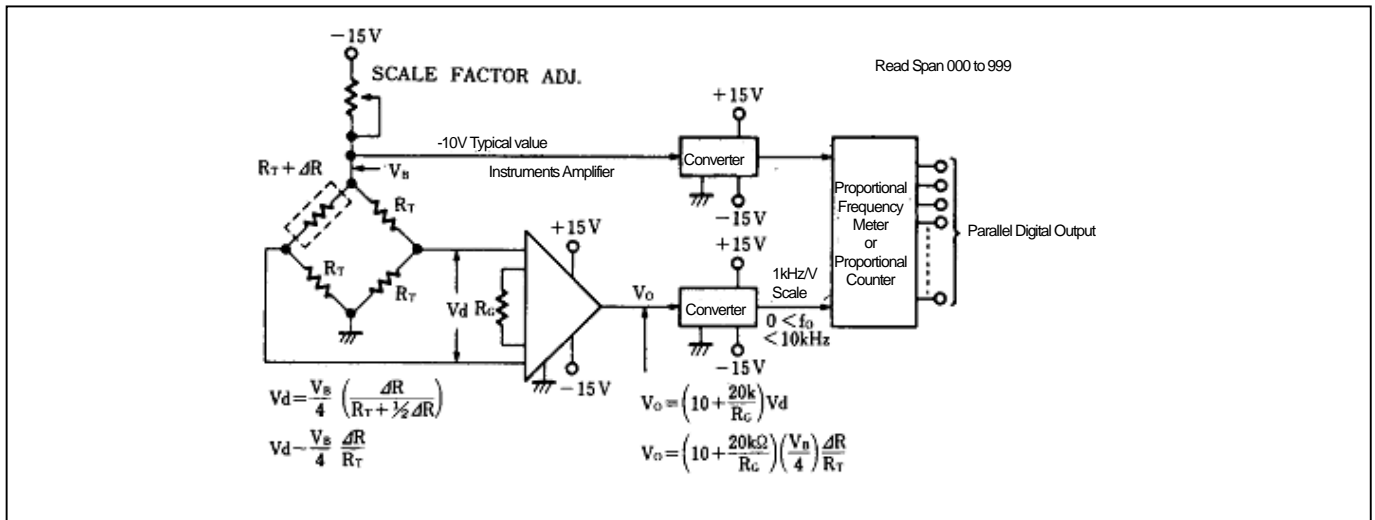

Figure 12. Proportional meter system
The accuracy of the systems is better on used proportional method, for measurement equipment. Use the NJM4151, Figure 12 shows the proportion by weight measurement system. First, the strain gauge bridge circuit, and the cells of weight detecting detect the weight. Then generates a difference voltage. The Difference voltage (VD) for the converting bridge approximated $V_B \Delta R / R_T$ in a small range of resistance changes of strain - gauge. Necessary information is $\Delta R / R_T$ and the voltage (VB) across the bridge must be stable. Instrumentation - amplifier amplify the low input differential voltage (VD). It is used to eliminate the common mode input voltage. The voltage across the bridge (VB) converted to frequency (fB). Then, the output voltage amplitude (V0) converted to frequency (f0). Hereby, ADC is designed for proportional meter. The voltage across the bridge converter is 1Hz / V. Amplifier voltage converter is 1kHz / V conversion factor. Proportional counter and frequency meter type of proportional will be used to convert frequency ratio f_0/f_B . The first advantage of conversion technology by the proportional method is that it is independent of the voltage across the bridge. Frequency (fB) is proportional to the bridge voltage (VB). Output frequency (f0) is proportional to the VB. f_0/f_B is independent of VB, only proportional to $\Delta R / R_T$.